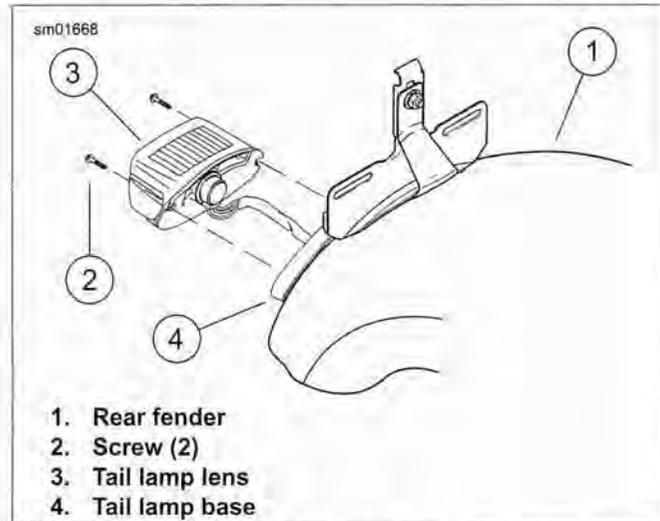

Figure 6-78. Tail Lamp Lens: All Models Except XL 883N, XL 1200N/X and XL 1200C/CP
3. See Figure 6-78. Remove two screws (2) and tail lamp lens (3) from tail lamp base (4).